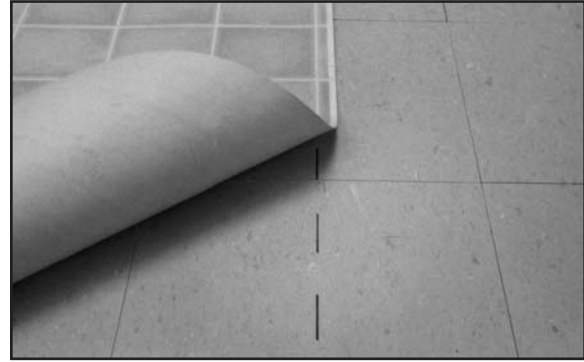

Fig. 10. On old tile floor, position seams in the middle of a row of tile.
- When covering over an existing tile floor, place seams of the new resilient sheet floor near the center point of a row of tile (Figure 10).